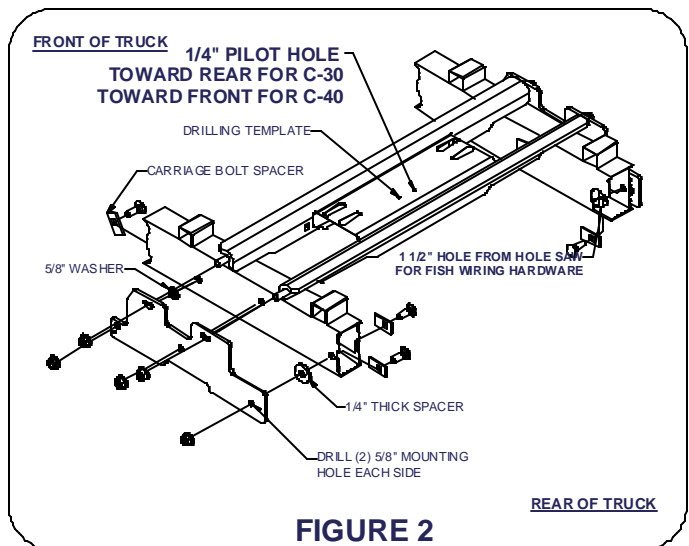

FIGURE 2
- 3) Use an 1 1/2" hole saw to drill an access hole through the bottom of the truck frame. Drill hole above rear axle and just behind the rubber stops mounted to the bottom of the frame. Drill hole on both sides of vehicle as shown in **Figure 2**.
- 4) Fishwire 5/8" carriage bolts and spacers through the previously drilled access holes. Pull carriage bolt threads out existing frame hole toward the front of truck, each side. Place a 5/8" washer between side plate and frame when pulling fishwire out through the side plates as shown in **Figure 2**. Secure the plate in place with a 5/8" flange nut. Finger tight only.
- 7) With side plates clamped and rear cross arm secure, position the drilling template provided between the cross arms as shown in **Figure 2**. Attach the template to the cross arms using four 5/8" carriage bolts and flange nuts provided with the center section. Tighten the 5/8" flange nuts with a 15/16" socket. **(Note: Template must be positioned correctly based on application shown in Figure 2.)**
- 12) With center section installation complete, the final side plate mounting holes can be drilled. Use holes in side plate as a guide to drill a 1 1/16" hole through the frame at both locations. **(See Figure 2 on page 1.)**